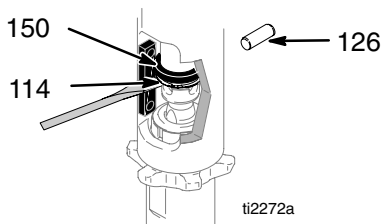
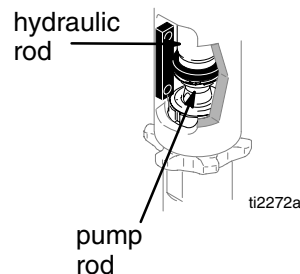

Fig. 12
Fig. 15
5. Fig. 12. Push magnet ring (150) up. Push retaining spring (114) up. Push out pin (126).
2. Fig. 15. Slowly pull engine starter rope until pump rod pin hole is aligned with hydraulic rod hole. Fig. 12. Push pin (126) into hole. Push magnet ring down. Push retaining spring (114) into groove.